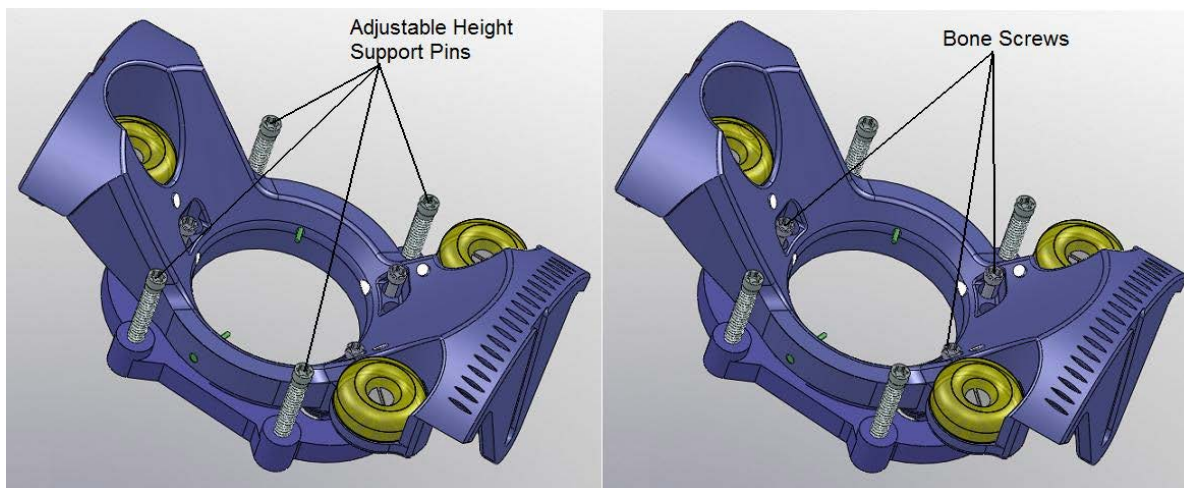
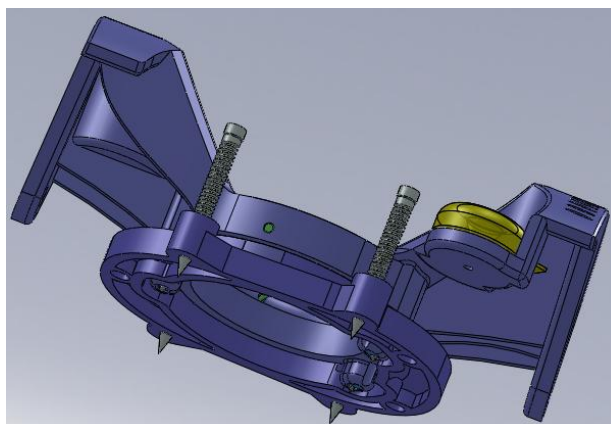

Figure 8: Adjustable Height Support Pins and Bone Screws for the Scalp Mount Base
Figure 9: Sharp Adjustable Height Support Pins
1. The Scalp Mount Base has four adjustable height support pins and three self-tapping bone screws. **See Figure 8.** The support pins have sharp tips. **See Figure 9.** They have small protective tubes covering them. Remove the tubes before proceeding.